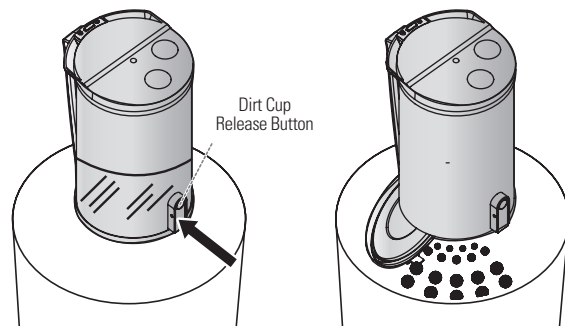

Fig. 20
- To empty, remove the dirt cup and hold over trash bin. Push the dirt release button and dispose of the dirt. (Fig. 20)